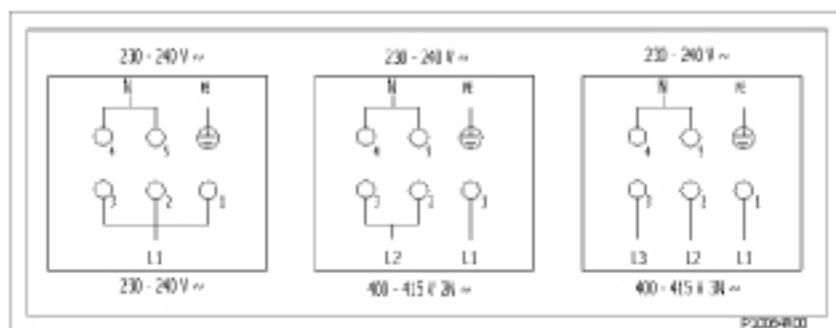

FIG. 15
b) Remove the connection jumpers on the clamp following the scheme of fig.15 (attached on the body).